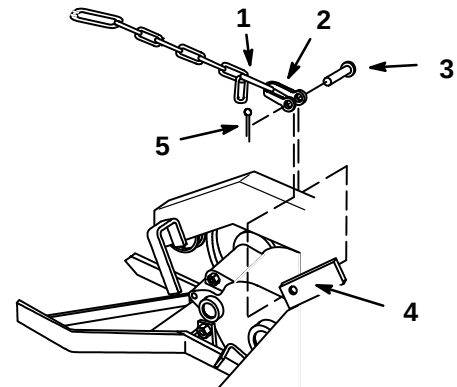

Figure 3
6. Attach lift chain, short link end, one link short, to lift bracket with clevis, clevis pin and secure with 3/4" cotter pin (Fig. 3).